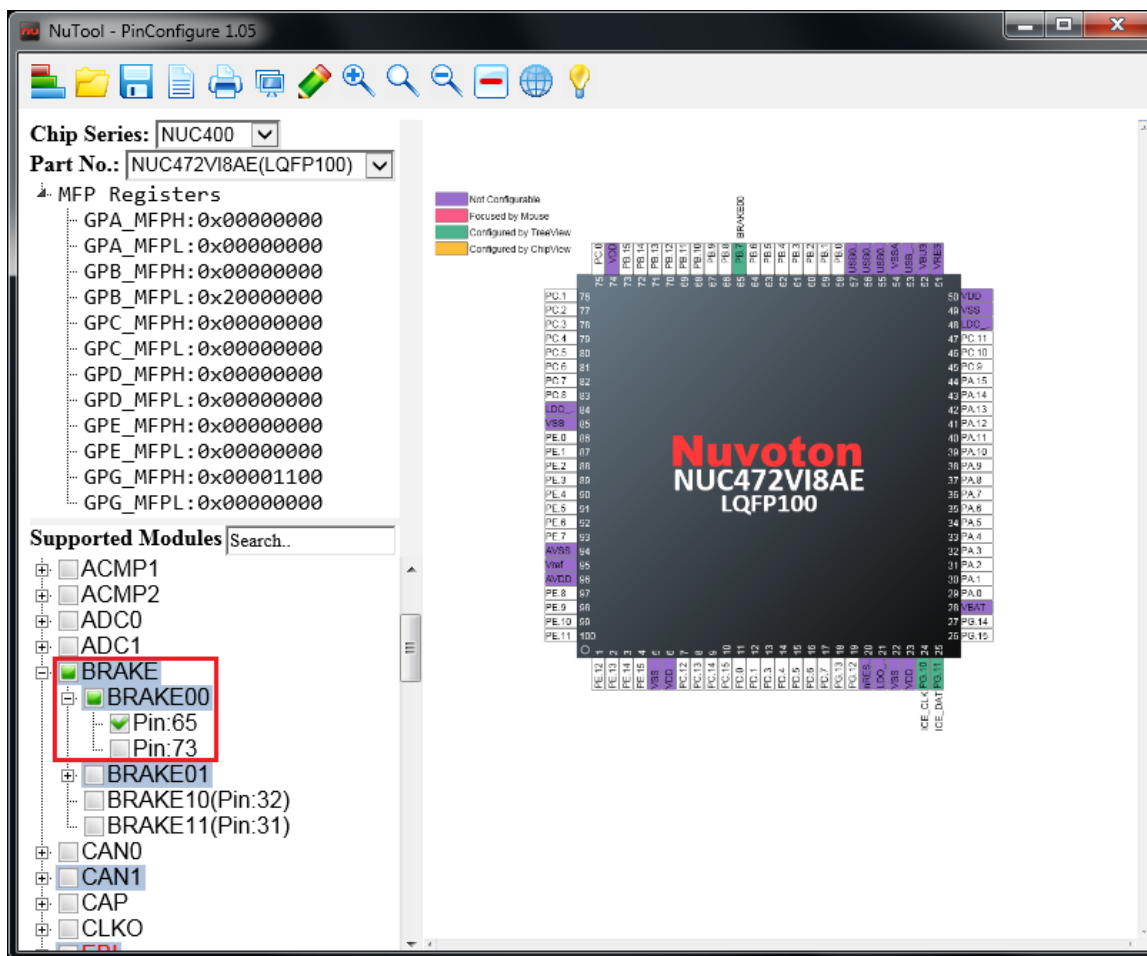

Figure 3-9 Multiple Selections of BRAKE00
2. Move the mouse cursor into the list and select the expected GPIO function and click on it. Configuring by the individual pin is accomplished. At the same time, the TreeView and the value of the MFP register will be updated correspondingly (referring to Figure 3-9).